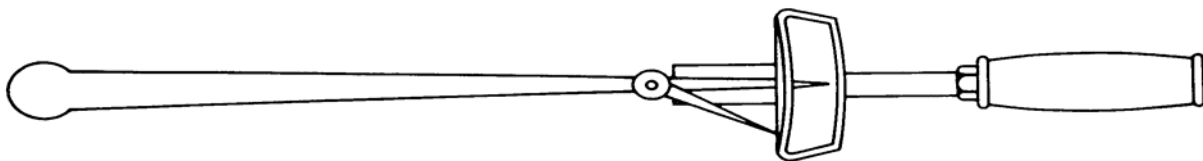

Figure 2. Type I, class 1, style B torque wrench, deflecting beam with indicator plate (direct reading with feel impulse and adjustable signal).
Torque Wrench, Direct Reading with Audible Signal: (figures 2, 4, and 6). Adjust trigger finger of sensory signaling mechanism on TI to point selected in (1) above. The pointer tip and not the trigger finger is the reference which must be used when adjusting the sensory signaling mechanisms. Gradually apply perpendicular force on handle of TI until sharp audible sound is heard and an impulse is felt in hand. Stop applying force at this point.